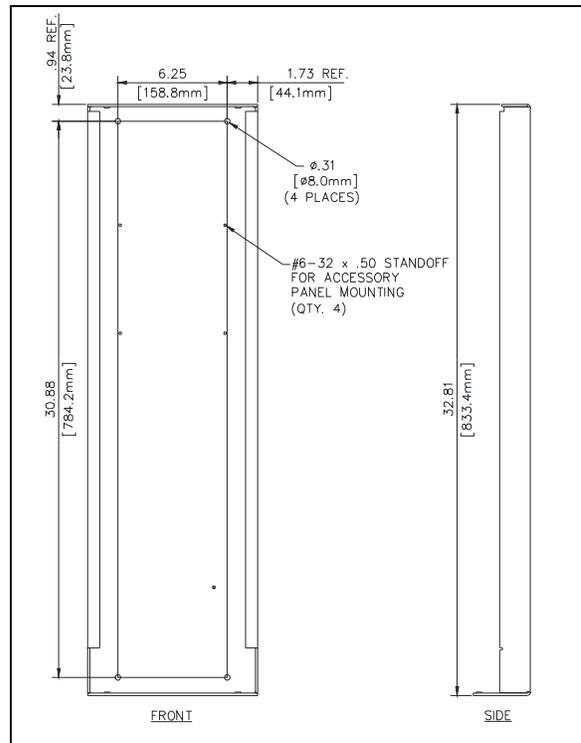

Figure 6. Rear Wall-mount Panel Detail
- Fasten the rear wall-mount panel to a wall or flat surface using the four mounting holes in the panel (see Figure 6).